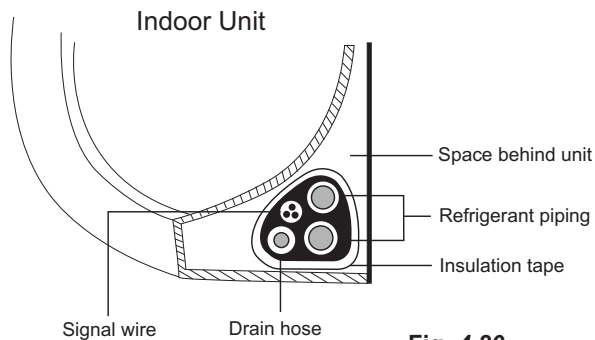

Fig. 4.20
1. Bundle the drain hose, refrigerant pipes, and signal cable according to Fig. 4.20
3. Using insulation tape, wrap the signal wire, refrigerant pipes, and drain hose tightly together. Double-check that all items are bundled in accordance with Fig. 4.20.